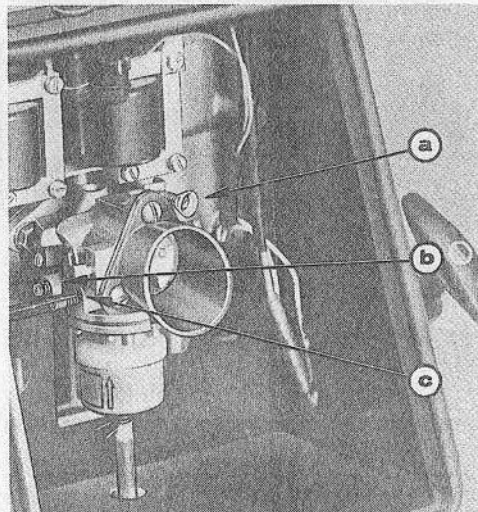

Figure 68
**IDLE SPEED ADJUSTMENT:** Turn the idle speed adjuster screw, clockwise to increase speed and counterclockwise to reduce it.\* See Fig. 68 or 69, item a.
**IDLE SPEED MIXTURE ADJUSTMENT:** Be careful when adjusting the idle speed mixture. Too rich a mixture activates carbon formation inside the engine. If the mixture is too lean, the engine will lack lubrication at idle speed. See Fig. 68 or 69, item b.
The idle speed mixture screw should be set at  $\frac{3}{4}$  turn open (counterclockwise) for primary adjustments. Open more for richer mixture or close (turn clockwise) for leaner mixture. See Fig. 68 or 69, item b.
The high speed mixture screw is turned clockwise or counterclockwise to give a lean or rich mixture (same as for idle speed mixture). The adjusting screw should be opened  $1\frac{1}{8}$  turns as primary setup. See Fig. 68 or 69, item c.